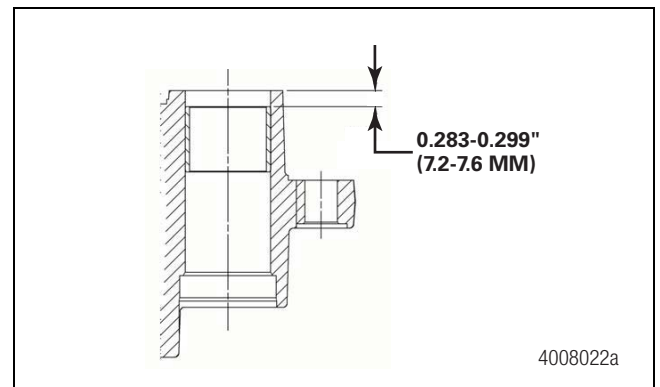

Figure 5.33
3. Using the applicable parts from Meritor tool MST 1000, pull the bushing into the slide pin bore to a depth of 0.283-0.299-inch (7.2-7.6 mm) measured from the end face of the housing (on the boot retainer side of the bore). Figure 5.33.